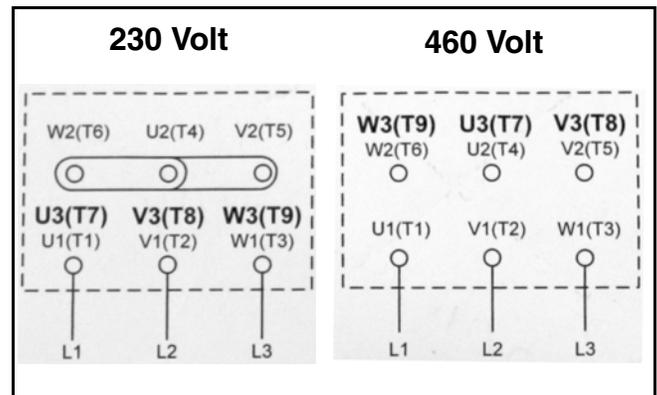

Figure 13
2. Determine wiring configuration (Figure 13).